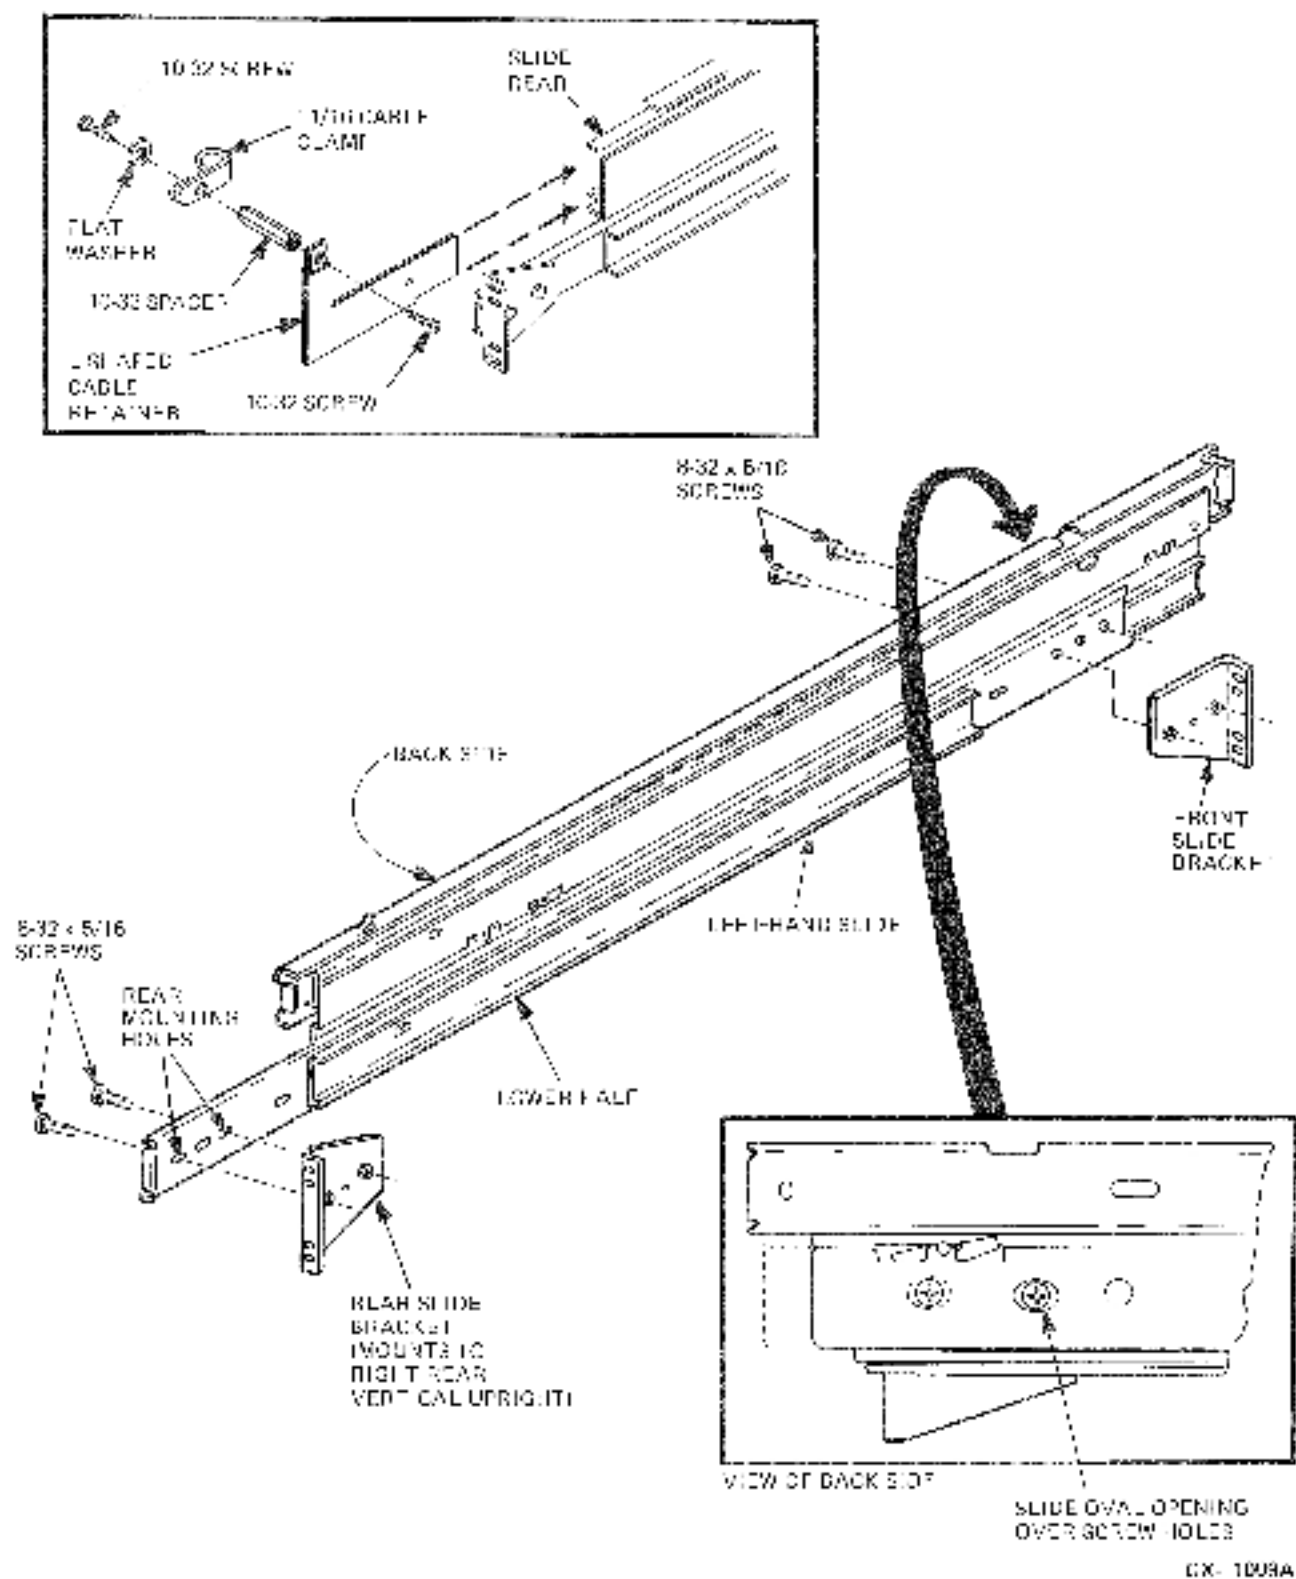

Figure 5-9 Left-Hand Slide
4. Lay the left-hand slide on its back and push the lower half of the slide to the left to gain access to the rear mounting holes (Figure 5-9).
5. Use two 8-32 screws to mount the rear slide bracket to the slide as shown in Figure 5-9. Don't tighten the screws all the way since some leeway is needed later when the slides are mounted into the cabinet.
7. Press the two front leaves of the L-shaped cable retainer together and force the retainer into the rear of the left-hand slide assembly as shown in Figure 5-9.